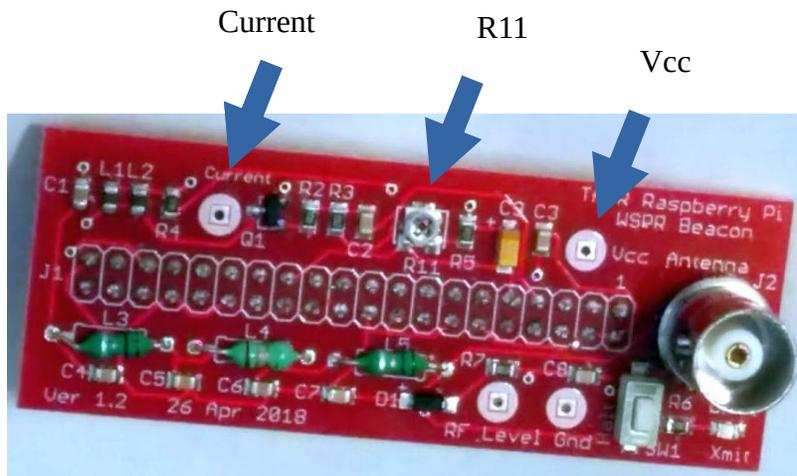

Figure 9: Bias Adjustment
- Measure the voltage between the **Current** and **Vcc** testpoints as shown below in Figure 9. There is a 1 ohm resistor between the testpoints, so the voltage directly corresponds to the current (10 mV equals 10 mA). The DVM positive/red lead goes to the Vcc testpoint. The DVM negative/black lead goes to the Current testpoint.
- Set the bias current using R11 (see Figure 9) using a small blade screwdriver (clockwise increases the current). For example, the bias voltage for an 80m WSPR transmitter would be set to 85 mV, which corresponds to 85 mA.